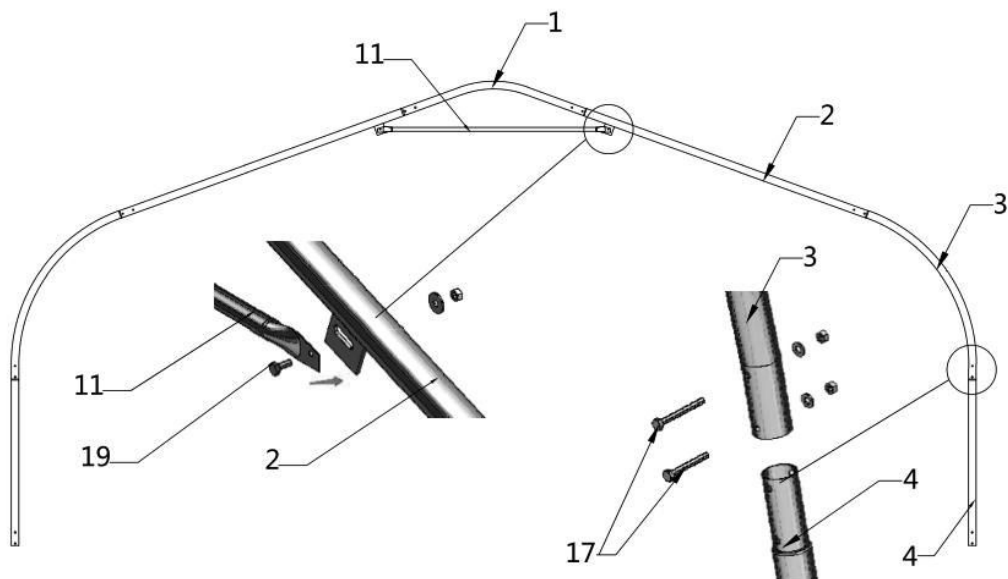

Figure 4
- Parts used to install (3) middle trusses in this step (refer to figure 4).